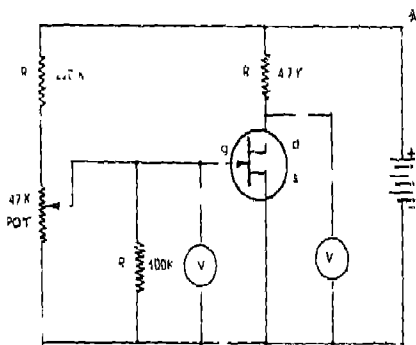

Fig. 16.1
1. Connect the circuit as shown in Fig. 16.1.